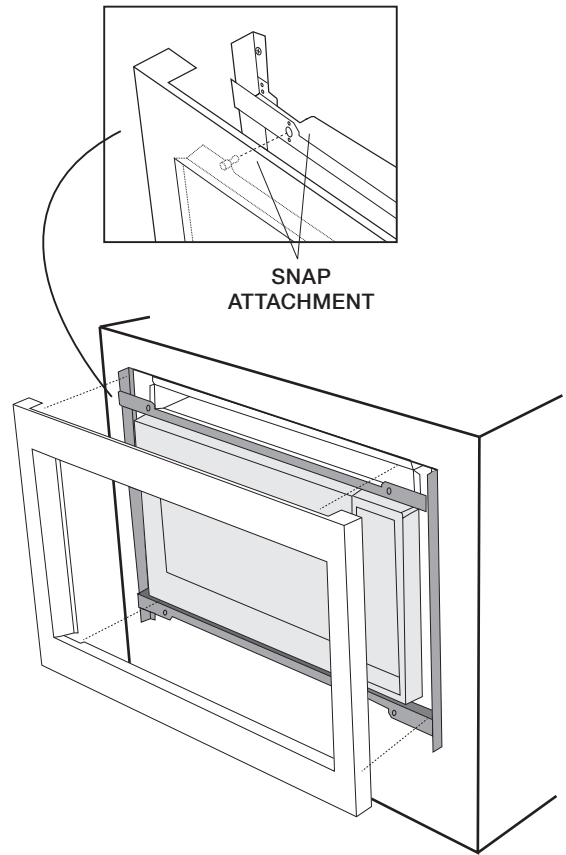

Figure 10
E. FRONT FRAME INSTALLATION: Place the FRONT FRAME onto the BACK FRAME and align ball studs and receivers. Secure the FRONT FRAME to the BACK FRAME by firmly pushing the front frame onto the back frame engaging the four (4) snap attachments. See Figure 10.